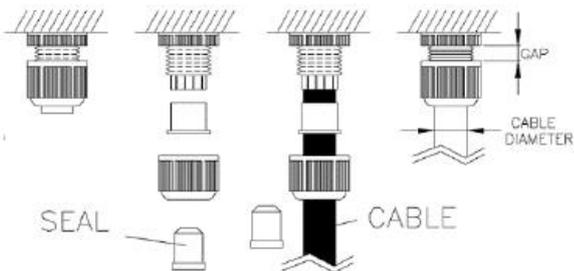

Fig.1
- 1 Cable diameter : Ø7.8 ~ Ø12.7mm. Cable gland nut's gap refer to Fig.1 & 2.